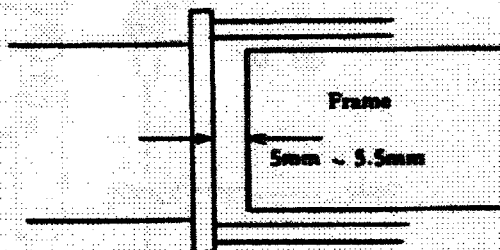

Fig. 16
- 1) When winding the mechanism, separation between the 2nd Curtain and the frame edge should be 5 ~ 5.5mm. See Fig. 16.